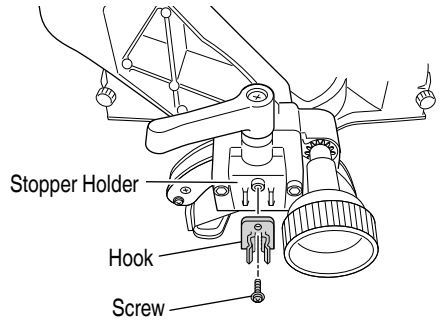

Fig. 53
- (1) Attaching the hook assembly (Fig. 53) Using a Phillips screwdriver, firmly fasten the hook to the stopper holder with the screw.